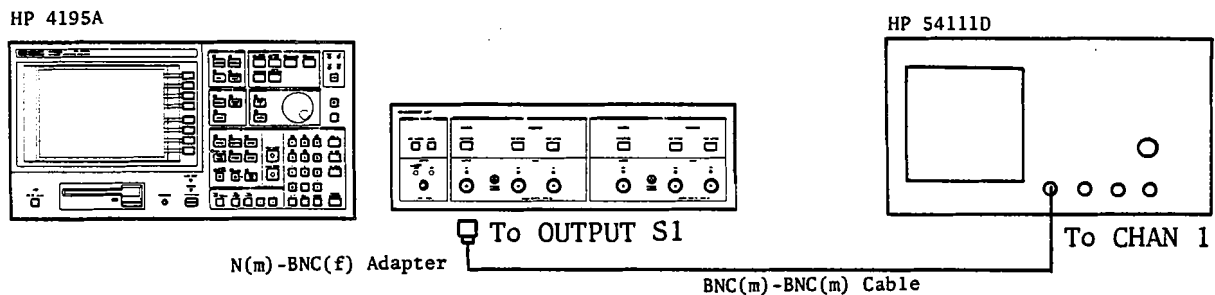

Figure 3-129. Power Amplifier DC Offset Adjustment Setup
1. Position the Control and Measurement Units as shown in Figure 3-129, and connect the Interconnection Cables between both units.
2. Connect the equipment as shown in Figure 3-129.